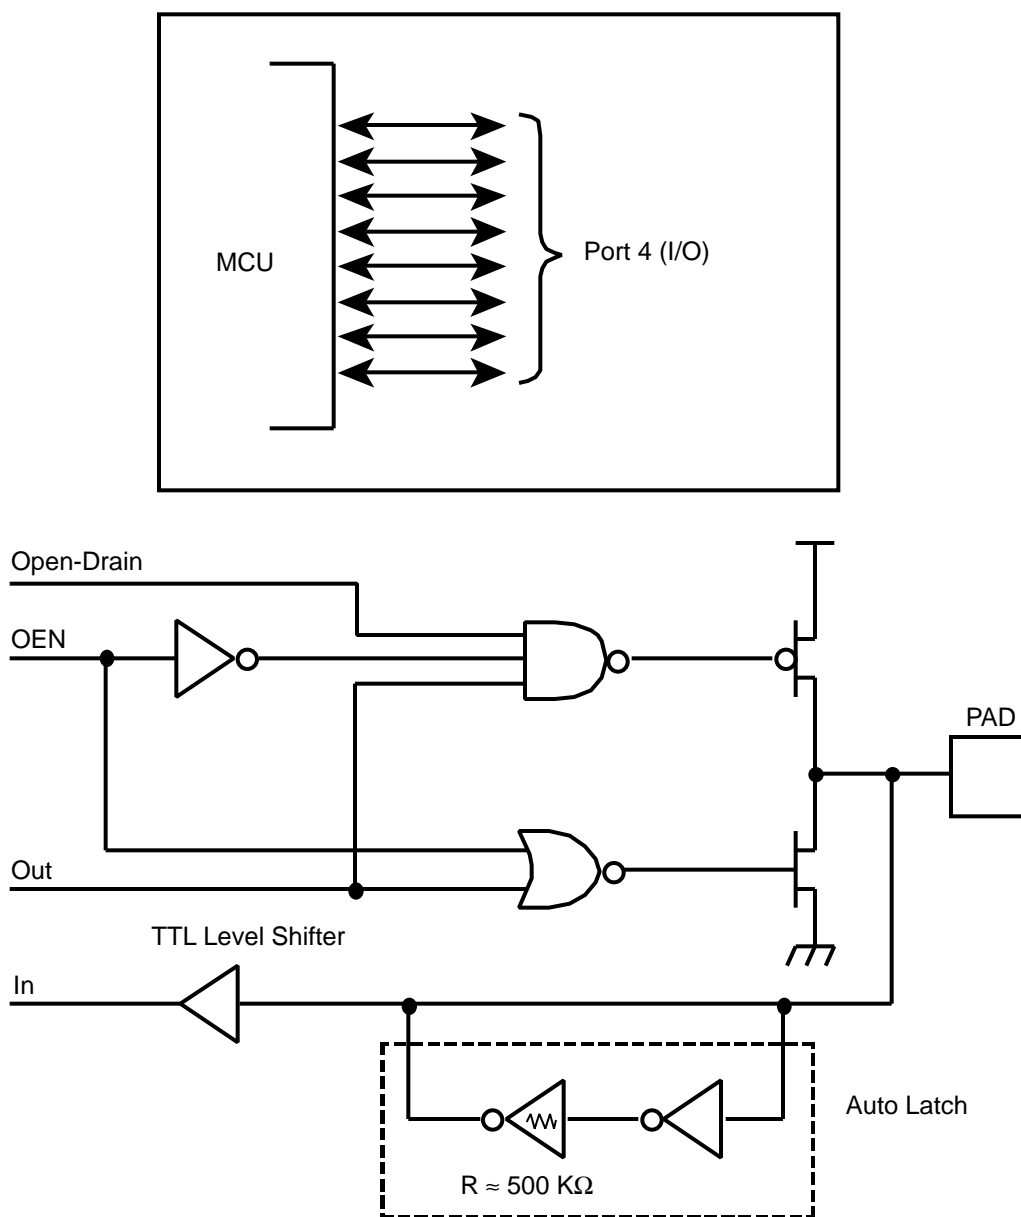

Figure 18. Port 4 Configuration
Port 4 (P47-P40). Port 4 is an 8-bit, bit programmable, bi-directional, CMOS-compatible port. Each of these eight I/O lines can be independently programmed as an input or output or globally as an open-drain output. Port 4 is always available for I/O operation (Figure 18). Port address (F)02.
Register File. The Register File consists of four I/O port registers, 236 general-purpose registers and 16 control and status registers (Figure 18). There are eight further registers for I/O ports 4, 5 and 6 in the Expanded Register File (Bank F, R9-R2) (Figure 20).